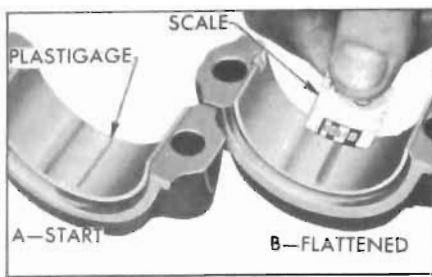

Figure 2-30—Checking Bearing Clearance with Plastigage
2. Place a piece of Plastigage lengthwise along the bottom center of the lower bearing shell (Figure 2-30, View A), then install cap with shell and tighten bolt nuts to 30-35 ft. lbs. torque.
5. Using the scale printed on the Plastigage envelope, measure the flattened Plastigage at its widest point. The number within the graduation which most closely corresponds to the width of Plastigage indicates the bearing clearance in thousandths of an inch. See Figure 2-30, View B.